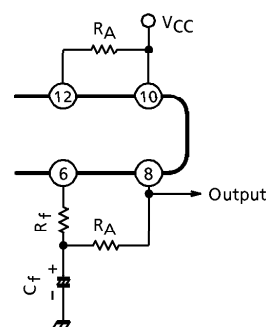

Fig.3
1) In case of the battery use ( $V_{CC} \leq 6V$ ), this IC happens to oscillate (blocking oscillation) when the impedance of power supply is high. In this case, it is recommended to insert the resistance  $R_A$  of  $500\Omega \sim 1k\Omega$  between ⑩pin and ⑫pin ( $V_{CC}$  - Filter II). By this method, this IC becomes very stable. But the output DC voltage is not center by the influence of  $R_A$ . Then the output wave shape is not symmetrical clipping wave and the maximum output voltage is reduced. So we recommend to insert the other resistance  $R_B$  between ⑥pin and ⑧pin for compensating the output DC voltage.
2) When you use this IC at the supply voltage of more than 6V, it is better to insert the resistance  $R_B$  for compensating output DC voltage. (Fig.3)